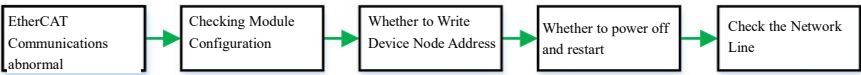

Figure 6-2-1 Troubleshooting process
- Figure 6-2-1 shows the troubleshooting process when the communication with OMron PLC is abnormal.